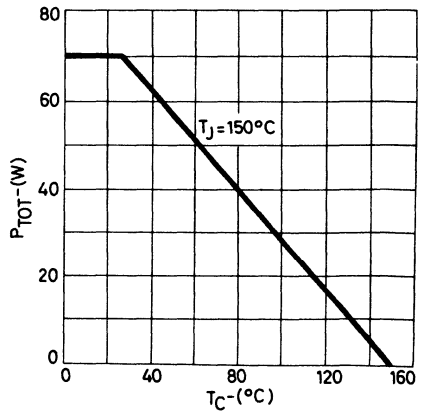

FIGURE 2
3. Derate linearly to 150 °C case temperature at the rate of 0.56 W/°C or refer to Dissipation Derating Curve, Figure 2.